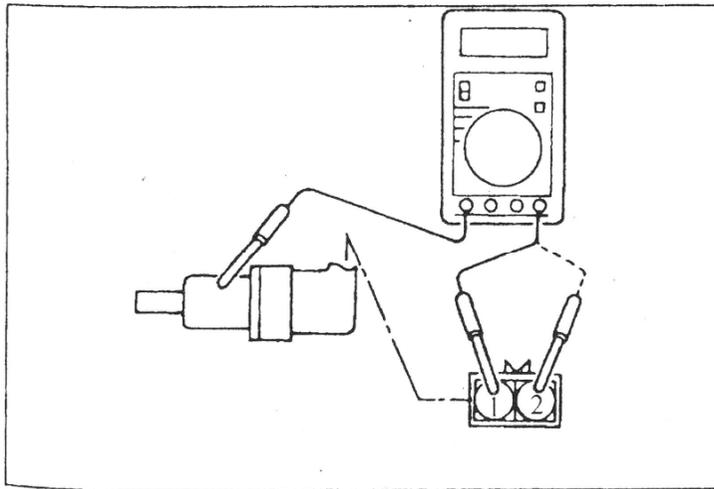

Fig. 16-67
1) Remove all connections from the speed sensor, and then measure the resistance between terminals No.1 and No.2 and the body of the speed sensor. see Fig. 16-67.